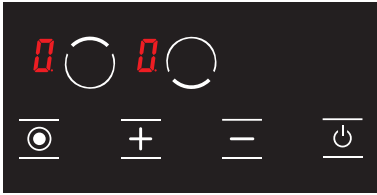

Figure 19
- The **H** icon is displayed on all displays. (see Fig. 19) The **H** and **H** icons are displayed alternatively if any hob is hot.